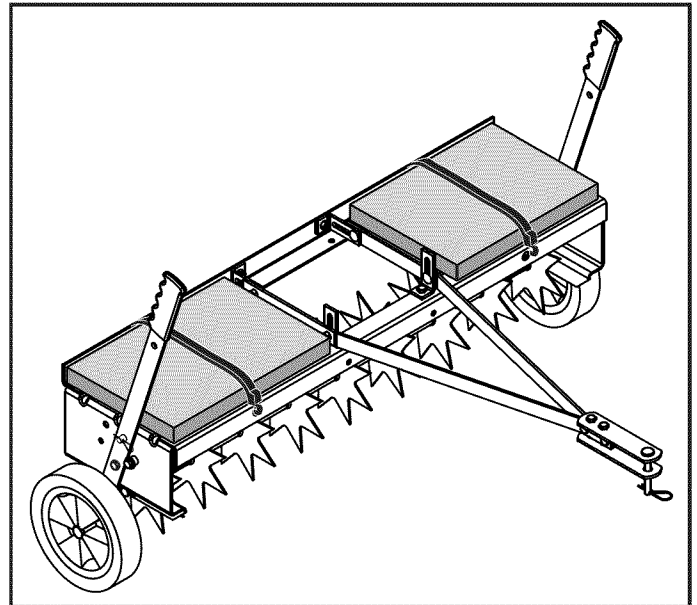

FIGURE 13
- To increase the depth of spike point penetration, weight can be added to the frame. Two 35 lb. patio type concrete blocks will fit easily onto the frame. The added weight can be secured to the frame with straps or other binding material. **DO NOT** exceed 90 lb. weight capacity. See figure 13.